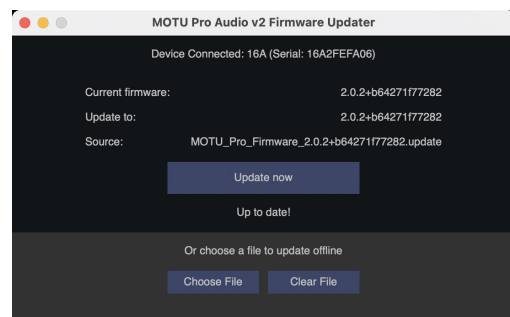

Figure 6-14: The 10pre Firmware Updater app.
☞ This step requires that the unit already has firmware version 2.1.5 or later. If not, use the Firmware Updater app (Figure 6-14 on page 61), accessed from the File menu.
- 1 Choose *File menu > Open Firmware Updater* to launch the updater app (Figure 6-14).
- 3 Once the firmware image is loaded, click the *Update Now* button (Figure 6-14).